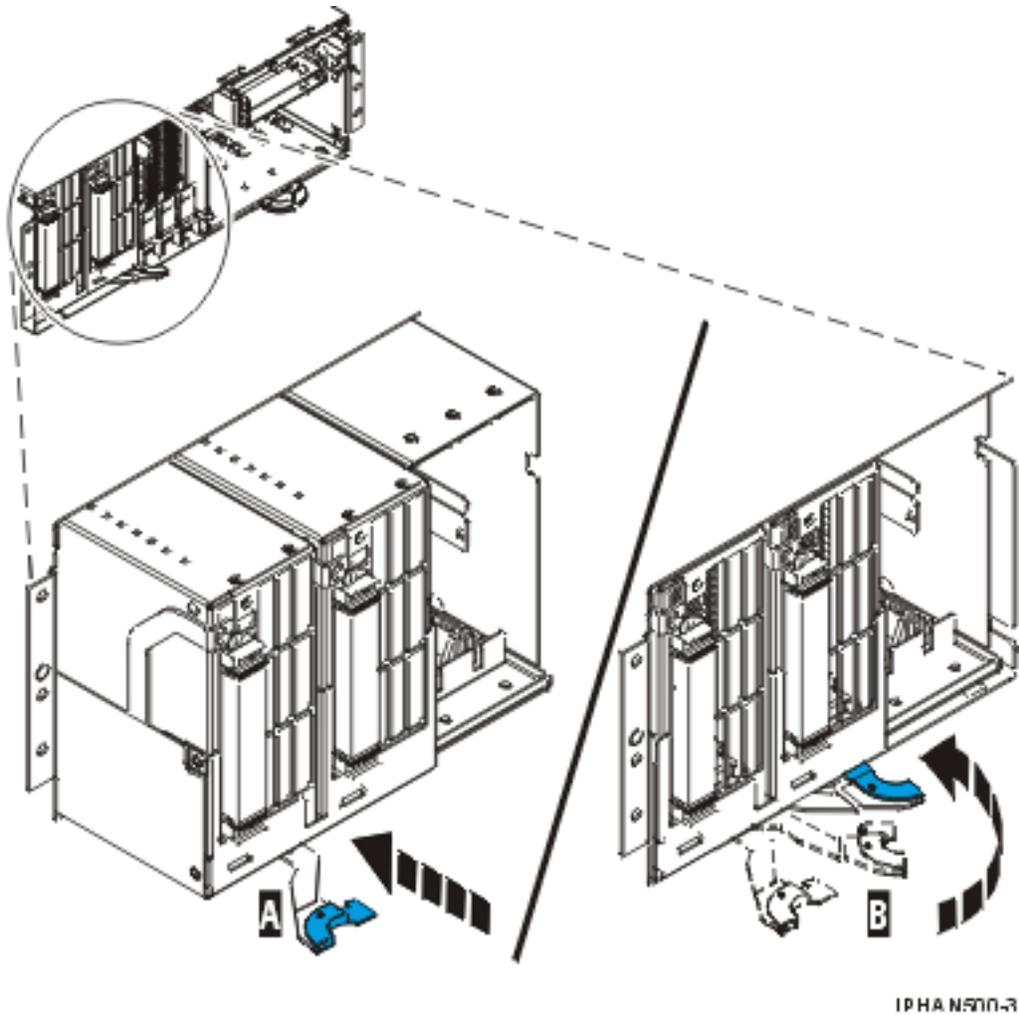

Figure 12. Slide the model 9116-561 or 570 system backplane assembly into the system unit
3. Slide the system backplane assembly into the system **A**, as shown in Figure 12 on page 19.